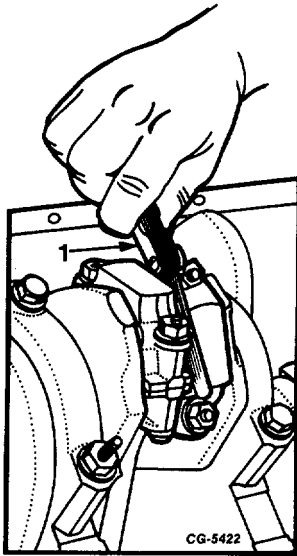

Fig. 129 Checking Connecting Rod End Clearance
- Check the connecting rod end clearance using a feeler gauge as shown in Figure 129. Excessive clearance may require replacement of rods or shaft. The check should be made to make certain the specified running clearance exists. Lack of clearance could indicate a damaged rod or a rod bearing out of position.